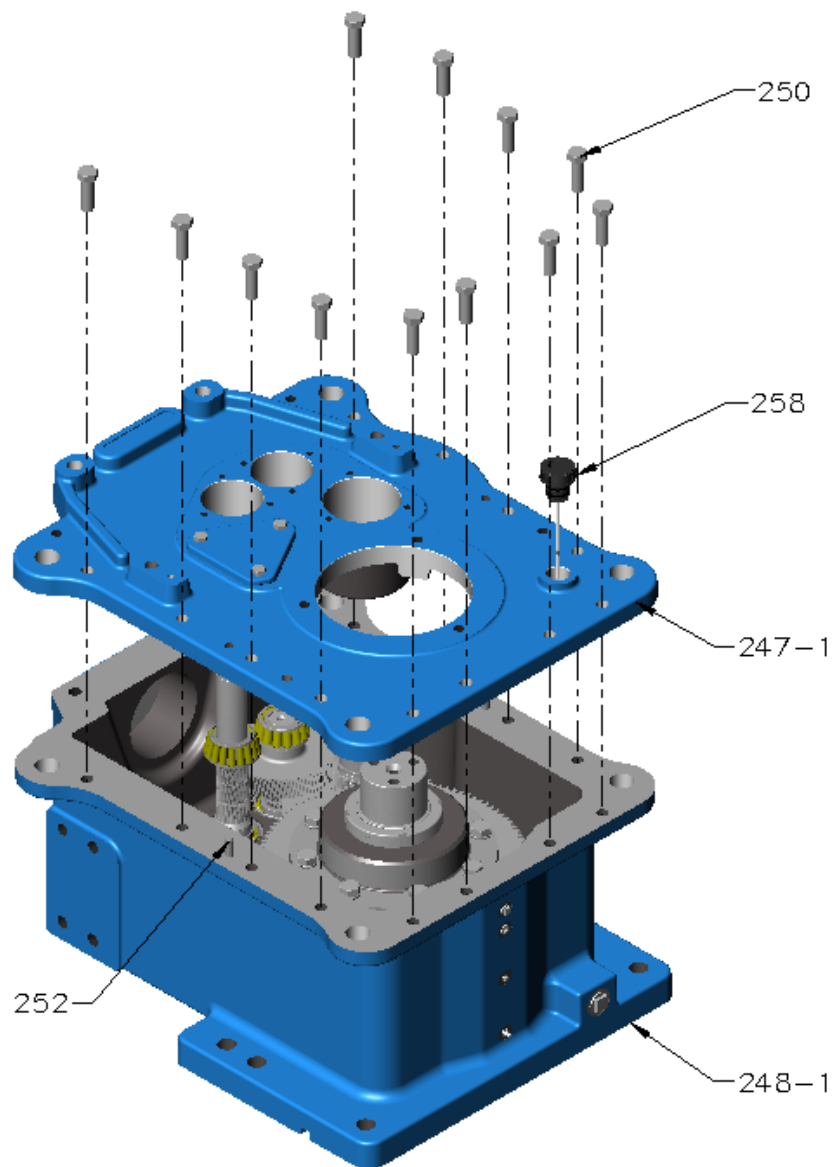

Figure 7 – Case Lid
- G. Remove case lid **[247-1]** (refer Figure 7).